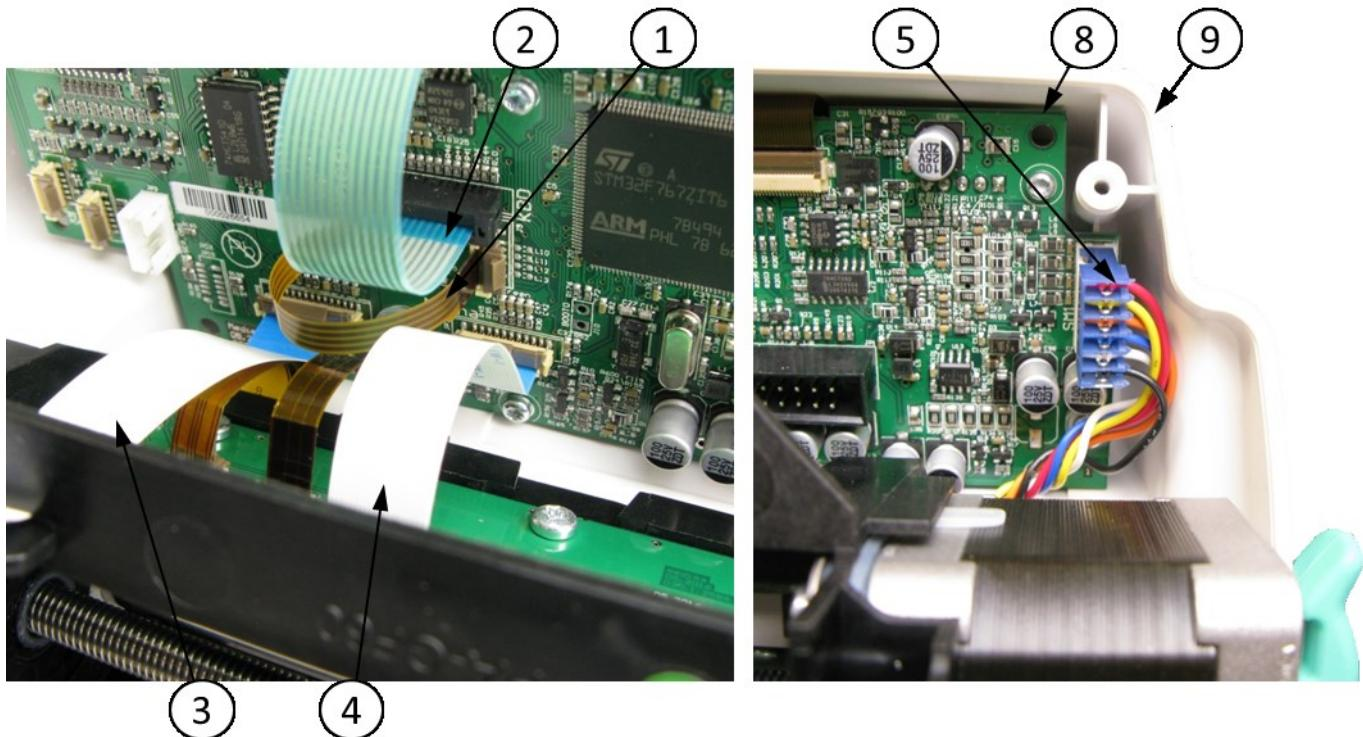

Fig. 39 CPU board set removal/installation
2. Disconnect the: **Touch-screen ribbon (1)**, **Keyboard ribbon (2)**, **Stem end extension FFC ribbon (3)**, **Drive mechanism FFC ribbon (4)** and **Engine plug (5)** as shown in Fig. 39.
4. Remove the **CPU board set (8)** from the **Font case (9)** (see Fig. 39).
2. Insert the **CPU board set (8)** into the **Front case (9)** as shown in **Fig. 39**.
5. Connect the **Stem end extension FFC ribbon (3)**, **Drive mechanism FFC ribbon (4)** and **Engine plug (5)** as shown in **Fig. 39**.